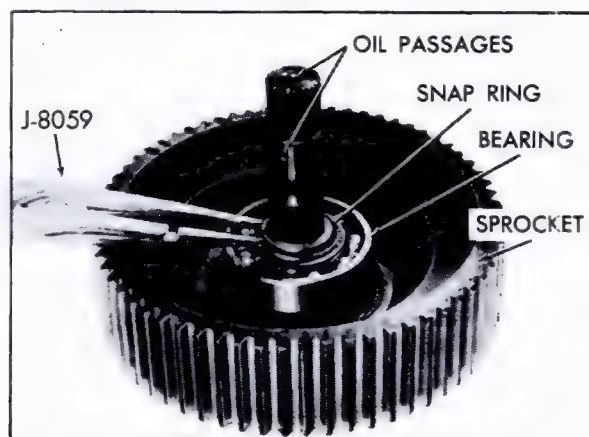

Fig. 7-165 Removing Sprocket Bearing Snap Ring
a. Remove sprocket to bearing assembly retaining snap ring using Snap Ring Pliers, J-8059, Fig. 7-165.